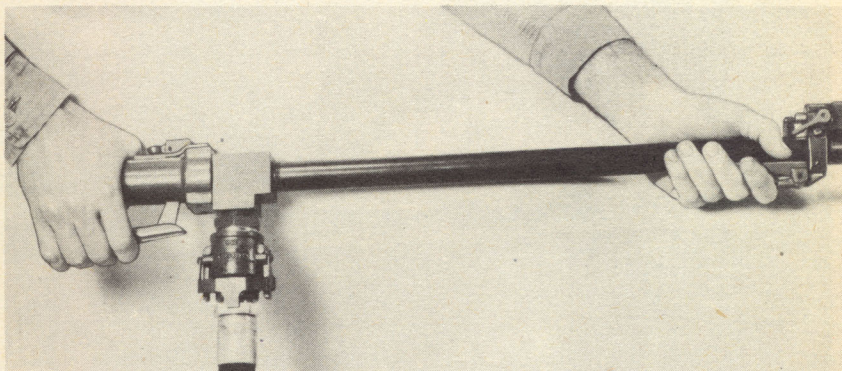

Fig. 27. Firing position of hands.
b. Ignited firing. (1) Ignition. Depress safety lock lever and squeeze ignition lever (fig. 27) once vigorously. A flash should appear at the front of the gun showing that an incendiary charge of the ignition cylinder has been ignited. If the flash does not appear, pull the ignition lever again, or as often as necessary up to five times, until a flash appears.
(2) Gun valve. Immediately after obtaining ignition, compress the gun valve forcefully to its full stroke (fig. 27) with the right hand. Burning fuel will be propelled from the gun (figs. 28 and 29).
(3) Adjusting fire. Direct flaming fuel at the target. Continue to squeeze the gun valve throughout the burst. When thickened fuel is fired, follow the fuel with eyes to the side of the stream in order to observe and correct aim. (If eyes are directly behind the stream, the flame may obscure the target.)